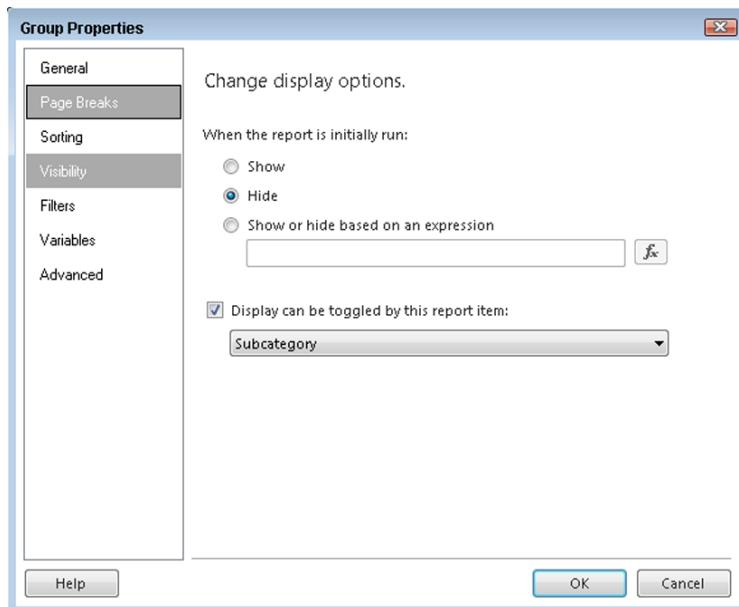

Figure 5-4
3. Check the Display can be toggled by this report item, and select the group that you would like to collapse into; then click OK. Figure 5-4 shows an example of this step completed.